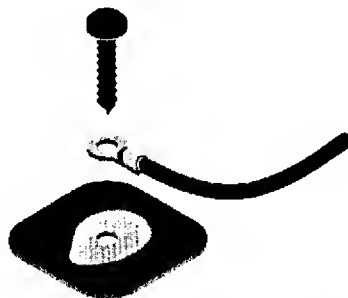

Fig. 15. Mounting the amplifier's GROUND lug to the vehicle's (bare metal) chassis.
4. Drill a small pilot hole (0.125" diam.) in the selected area and use a No. 10 self-tapping screw to securely attach the crimped lug (on the end of the ground wire) to the metal chassis, as shown in Fig. 15.